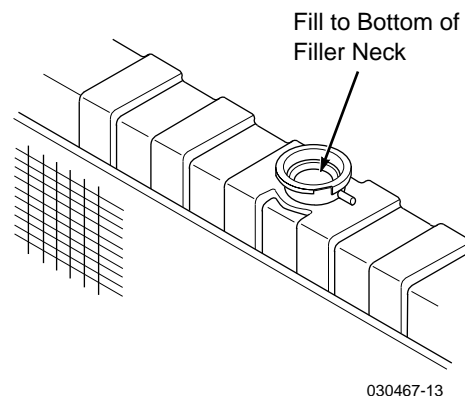

Figure 7-9 Cutter Deck Gearbox
2. Visually check the coolant level. The coolant level should be up to the bottom of the filler neck as shown in figure 7-9. Add a mixture of coolant and soft water as needed.